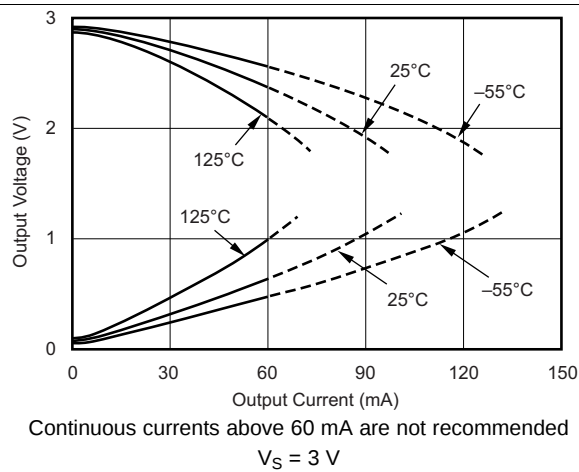
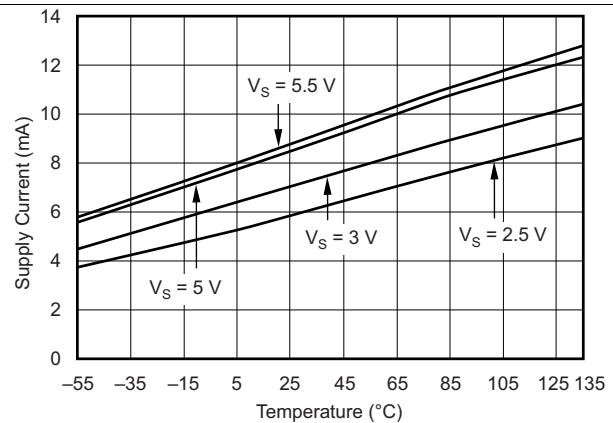
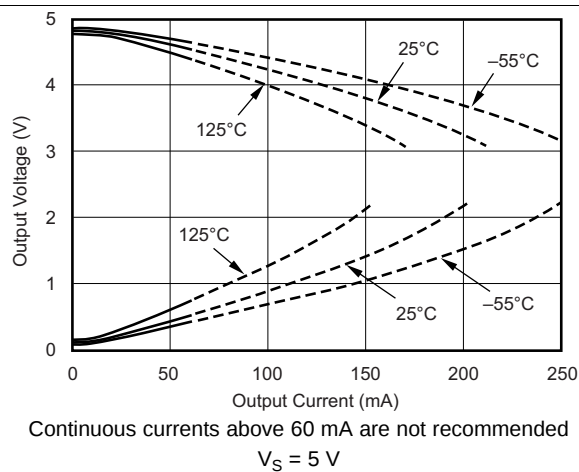

FIG 21. Output Voltage Swing vs Output Current
FIG 22. Supply Current vs Temperature
FIG 23. Output Voltage Swing vs Output Current
(1) See the *Output Voltage Swing vs Output Current* (Figure 21 and Figure 23) in the *Typical Characteristics* section.
(2) Logic LOW and HIGH levels are CMOS logic compatible. They are referenced to V_- .
Running a continuous DC current in excess of ± 60 mA is not recommended. See the *Output Voltage Swing vs Output Current* graphs (Figure 21 and Figure 22) in the Typical Characteristics section.